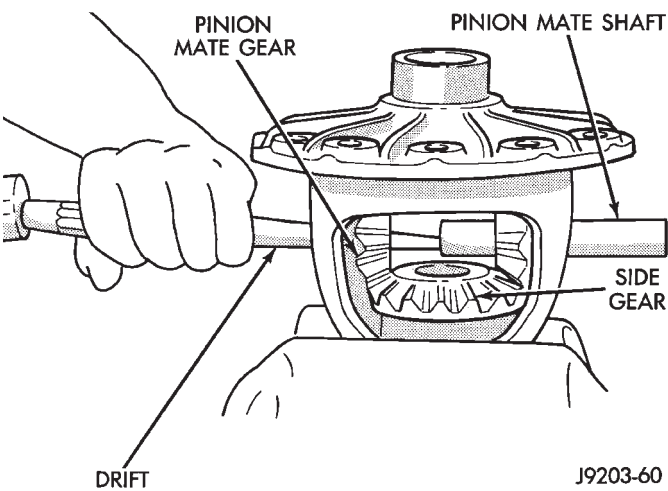

Fig. 7 Mate Shaft Removal
(5) Remove the mate shaft with a drift and hammer (Fig. 7).